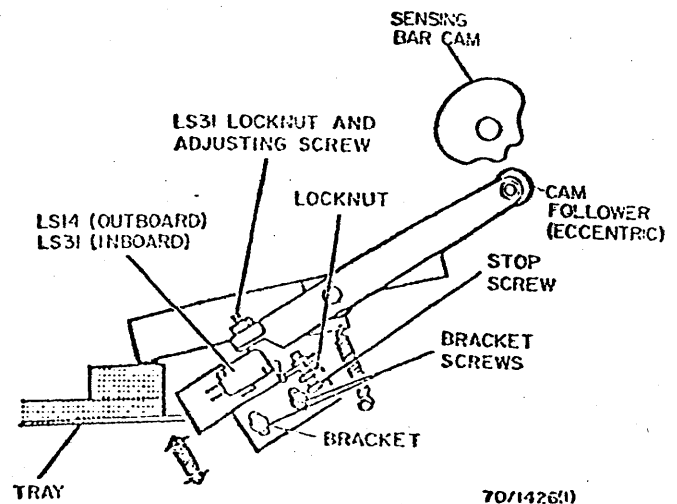

Fig. 3-67. Sensing Bar Switch LS14
7. Loosen the locknut on the stop screw, then back off the stop screw (Fig. 3-67).